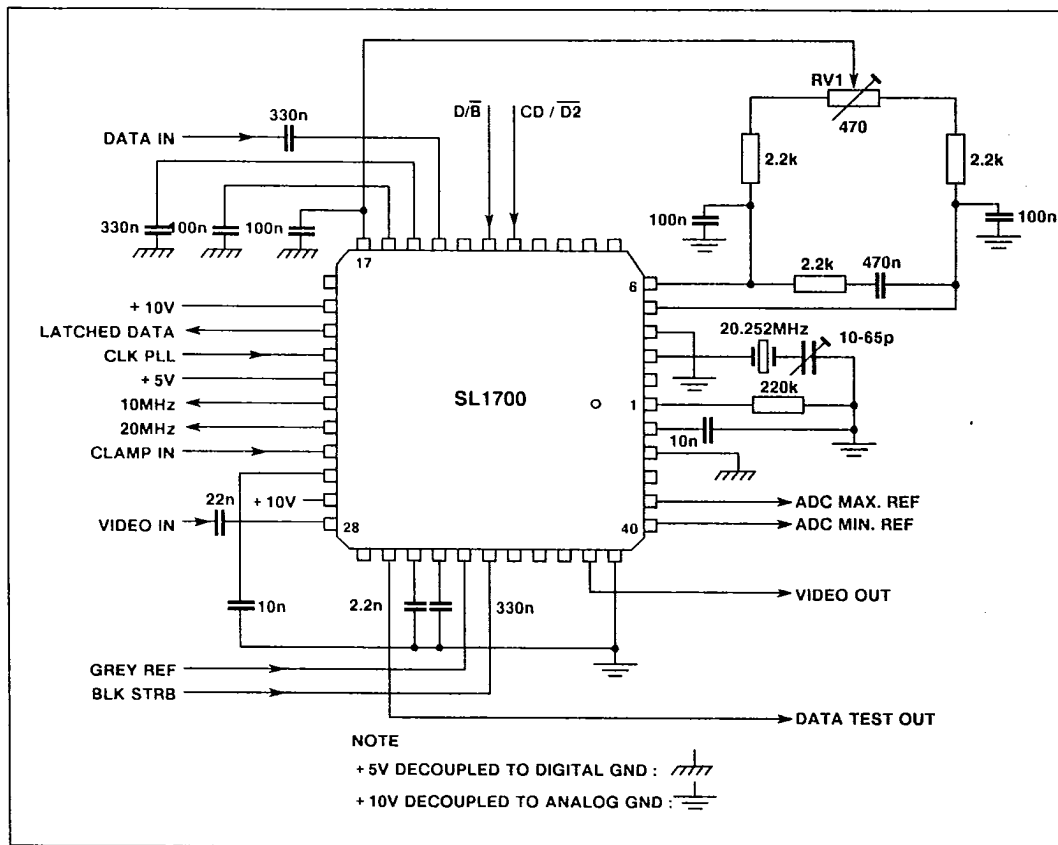

Fig.4 SL1700 test circuit
- Measured with loop filter as shown in Fig. 4 on pins 4 and 5 with 1Vp-p MAC composite signal applied to the data input using the mid grey pattern from a Schlumberger SI7765 MAC signal generator, DMAC selected and CLKPLL held high.
To adjust the free running frequency of the oscillator, first short pins 5 and 6 together and adjust the trimmer capacitor for a frequency of 20.253MHz. Remove short on pins 5 and 6, then short together pins 8 and 9 and adjust RV1 (shown in Fig. 4) for a frequency of 20.253MHz.